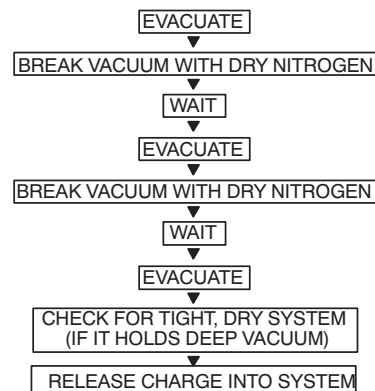

Fig. 35 — Triple Evacuation Method
The triple evacuation method should be used when vacuum pump is not capable of pumping down to 500 microns and system does not contain any liquid water. Refer to Fig. 35 and proceed as follows:
5. Repeat this procedure as indicated in Fig. 35. System will then be free of any contaminants and water vapor.